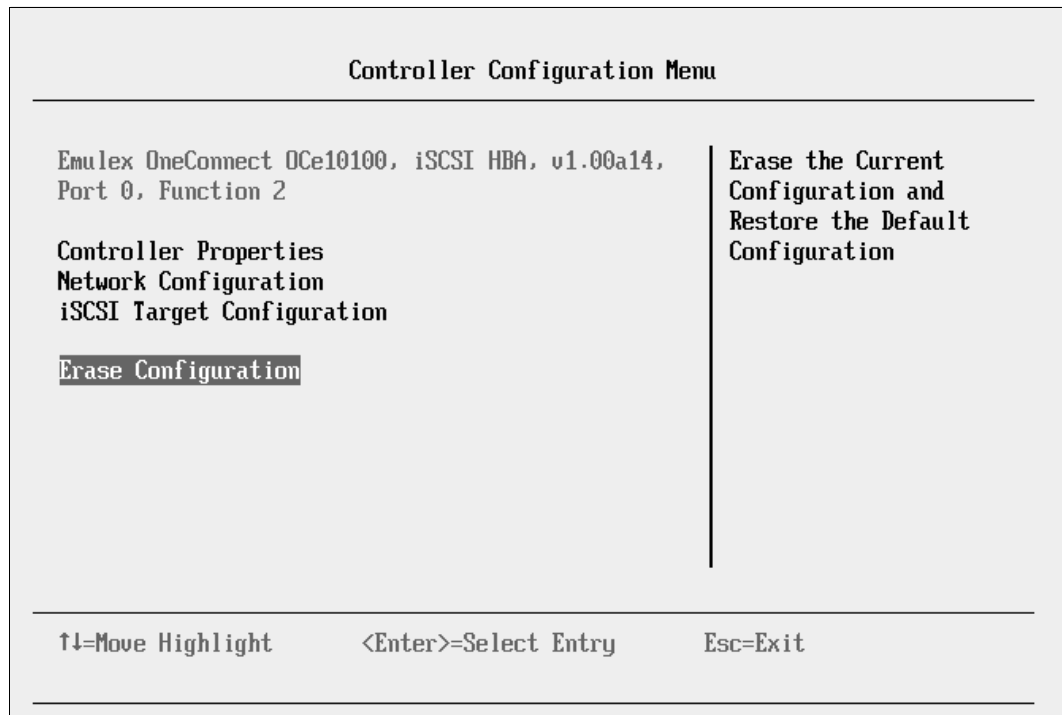

Figure 9-72 Controller Configuration Menu panel
1. Clear any configuration. In the Controller Configuration Menu panel (Figure 9-72), highlight **Erase Configuration**, and press Enter.
3. In the Controller Configuration Menu panel (Figure 9-72 on page 297), select **Network Configuration**, and press Enter.